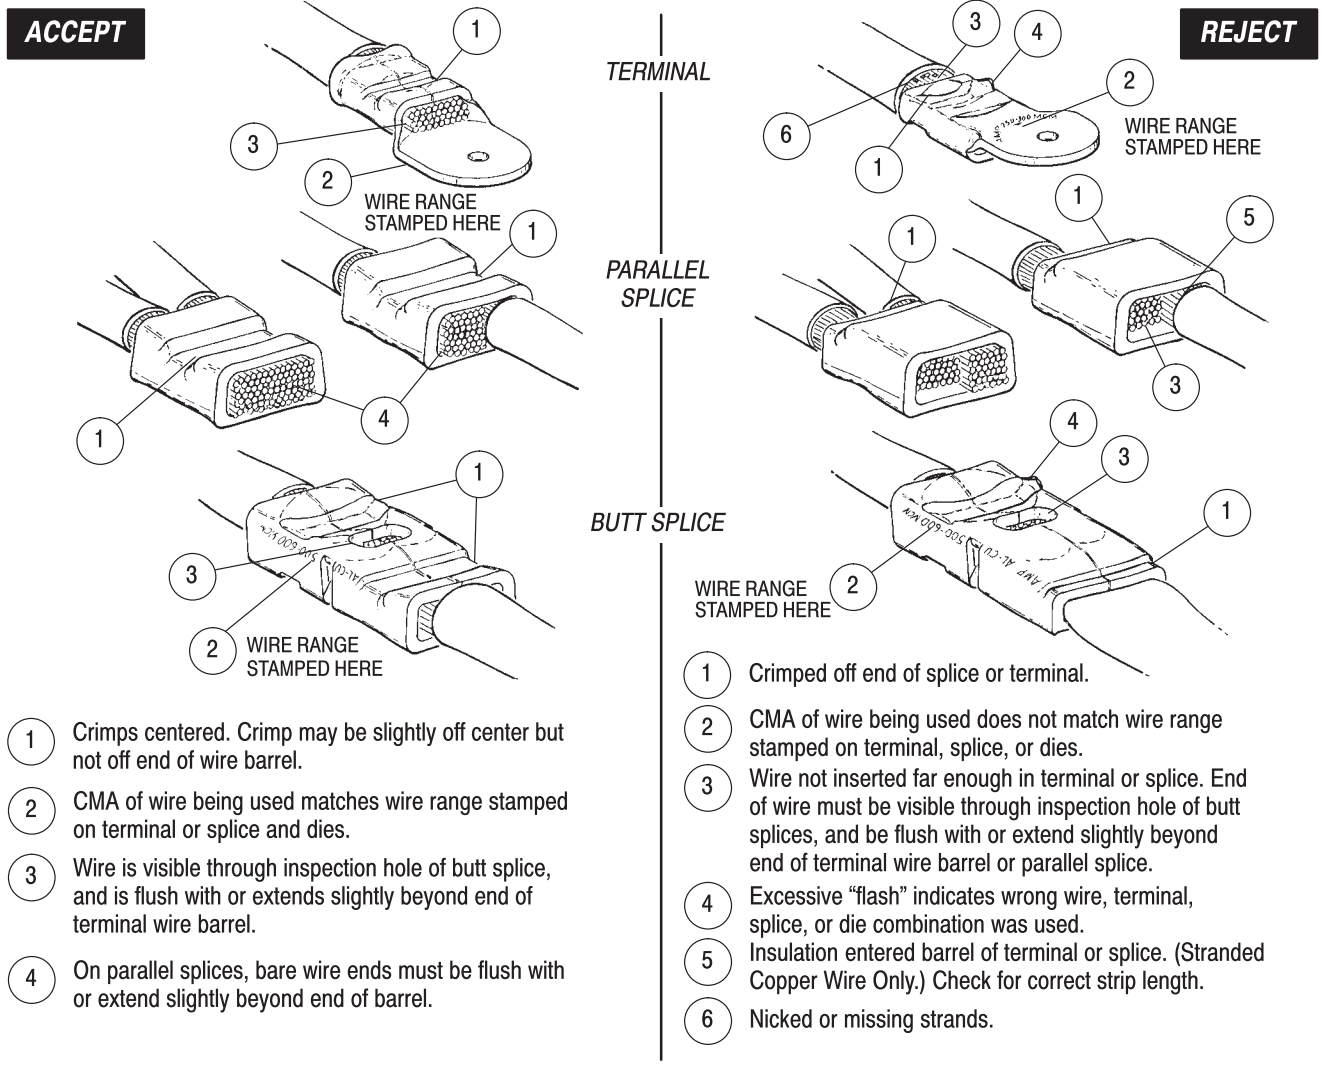

Figure 4
- Refer to Figure 4 and Section 6, CRIMP INSPECTION.
5. Refer to Figure 4 and Section 6, CRIMP INSPECTION.
Inspect crimped terminals and splices by checking the features described in Figure 4. Use only the terminals and splices that meet the conditions shown in the "ACCEPT" column. "REJECT" terminals and splices can be avoided through careful use of instruction in